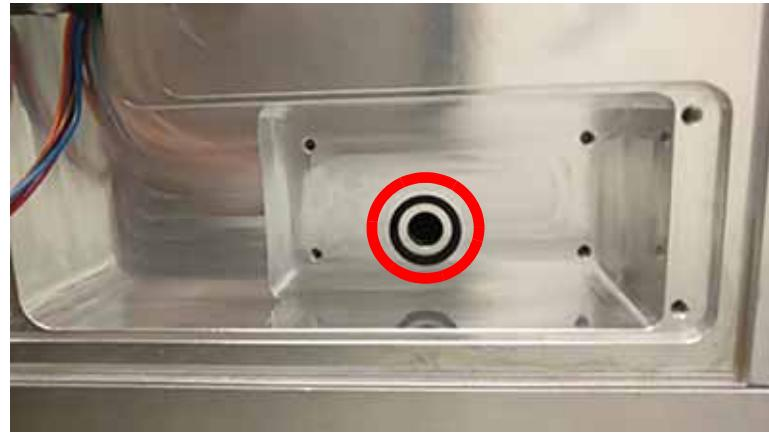

Figure 4.3-5. IR Detector O-Ring
6. Remove the O-Ring. See Figure 4.3-5 below.